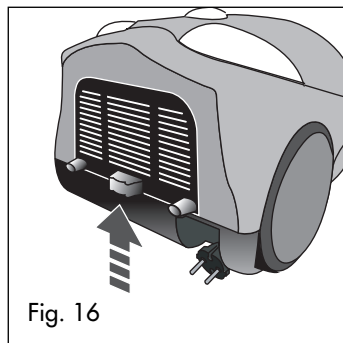

Fig. 16
The filter is located under the air outlet grill. To replace, press and lift the grill (O) (fig.16). To replace the filter, rest in position then reclose the grill with a light pressure until the clip hooks into place. If your appliance has an HEPA filter, make sure you position it with the rubber side facing the appliance.